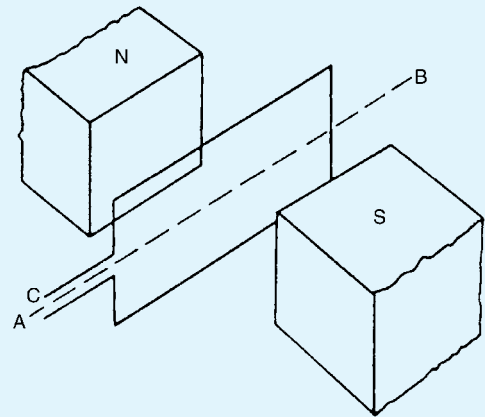

Figure 8.21
5. Figure 8.21 shows a rectangular coil of wire placed in a magnetic field and free to rotate about axis AB. If the current flows into the coil at C, the coil will: